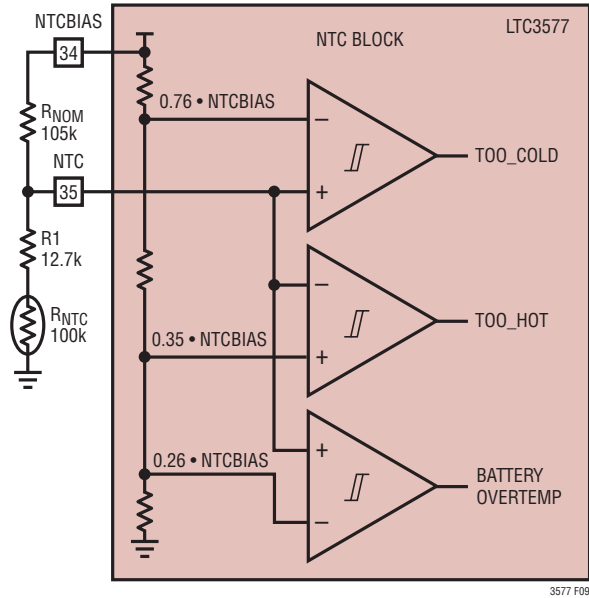

Figure 9. NTC Thermistor Circuit with Additional Bias Resistor
- $R_{NOM}$  = Primary thermistor bias resistor (see Figure 9)
- $R_1$  = Optional temperature range adjustment resistor (see Figure 9)
The upper and lower temperature trip points can be independently programmed by using an additional bias resistor as shown in Figure 9. The following formulas can be used to compute the values of  $R_{NOM}$  and R1:
the nearest 1% value is 12.7k. The final solution is shown in Figure 9 and results in an upper trip point of 45°C and a lower trip point of 0°C.